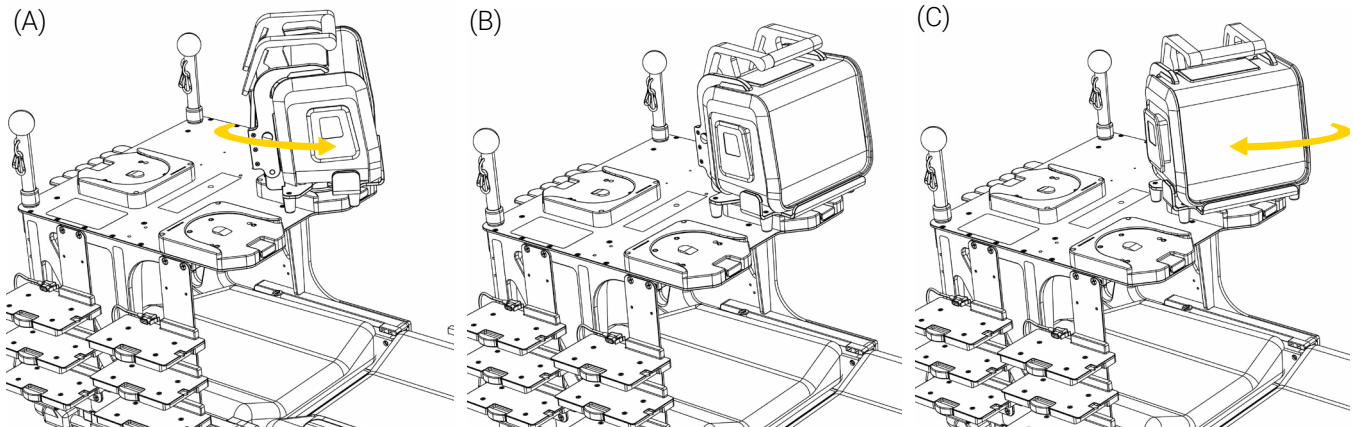

Figure 9: Rotating the medical device on a Standard Surface Base
3. Turn the medical device clockwise or counterclockwise (Figure 9), to the desired position.